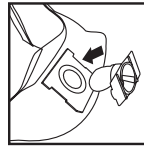

FIGURE 23
30. Position the inlet deflector with the opening facing the left or the right side of the filter bag. Slide the filter bag collar over the inlet deflector, matching the notches of the bag collar to the tabs on the inlet deflector. Bag will only fit properly one way. **FIGURE 23.**